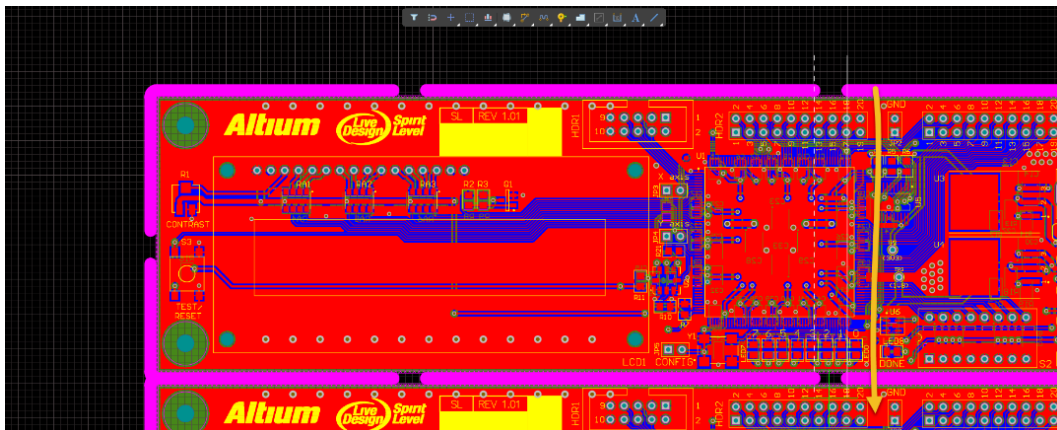

Figure 16. Position of the Slice Tracks cursor for second vertical cut
36. For the second vertical cut, move the cursor towards the top-right side of the first PCB instance, as shown in Figure 16. Start this cut near Pin 18 of component HDR2.